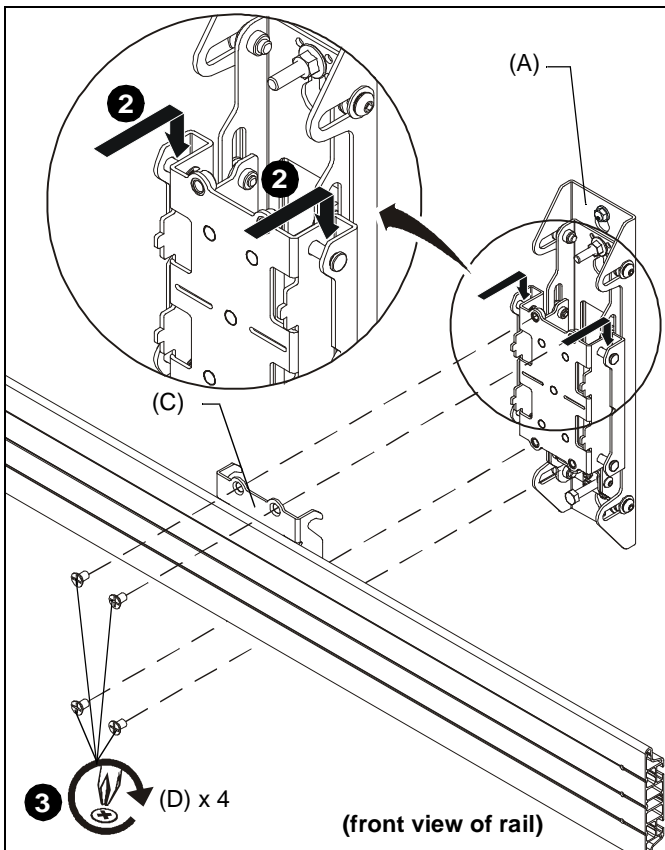

Figure 11
- Hook height adjust plates (C) over wall uprights (A or B). (See Figure 11)
- Fasten mounting rail to wall uprights using four 5/16 x 1/2" Phillips flat head screws (D) through height adjust plate (C) and into wall uprights (A or B) and tighten all screws. (See Figure 11)